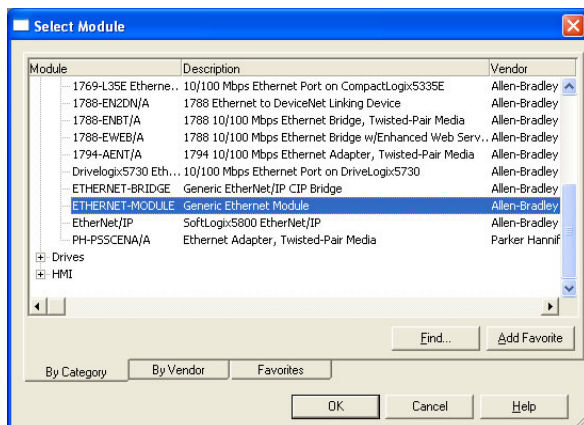

Figure 78: Adding a New Generic Ethernet Module
- 3) Choose “Generic Ethernet Module” in the Select Module dialog box and click “OK”. Refer to Figure 78.